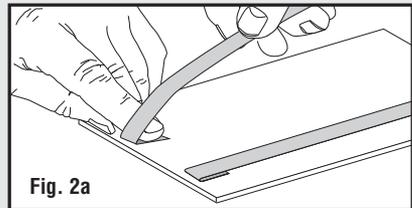

Fig. 2a
**TIP!** To make priming and painting loose Details easier, secure them to strips of masking tape (sticky side up) attached to a piece of cardboard (**Fig. 2a and 2b**).